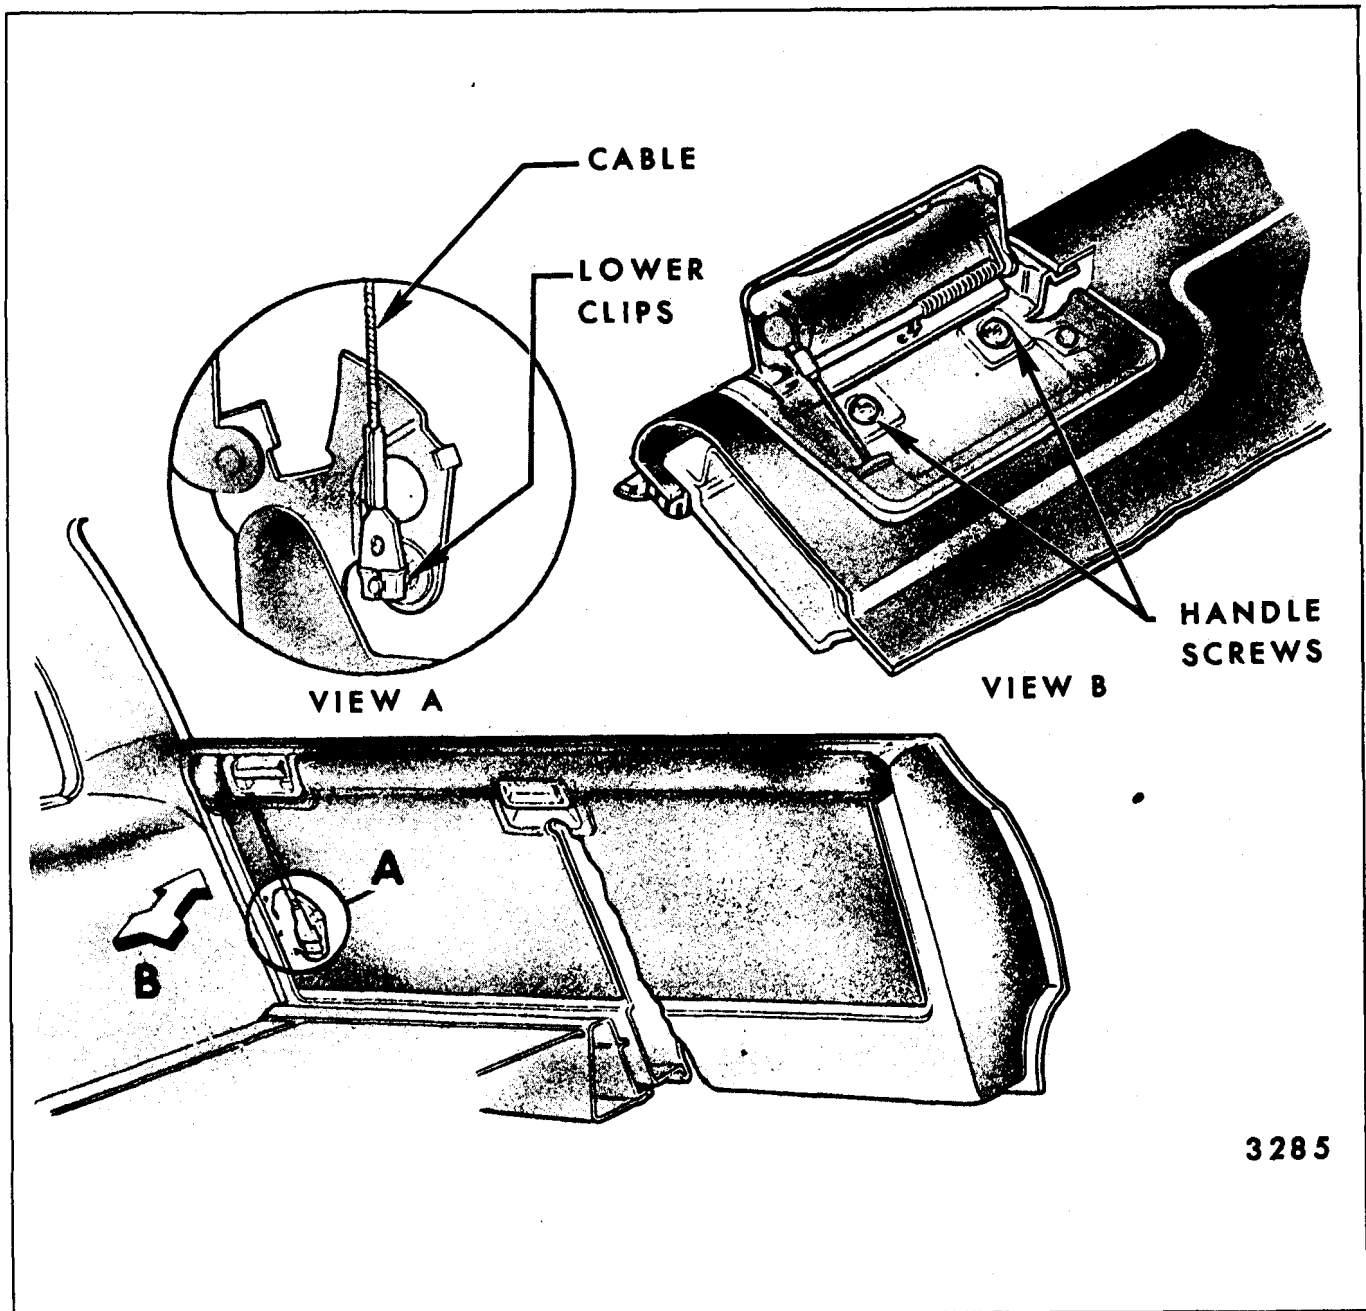

Fig. 9-43-Tail Gate Inside Handle and Cable Assembly-Door Operation
3. Disengage handle cable at upper lock clip (Fig. 9-43).
3. Disengage tail gate inside handle cable assembly (door operation) from lock (refer to View "A", Figure 9-43).